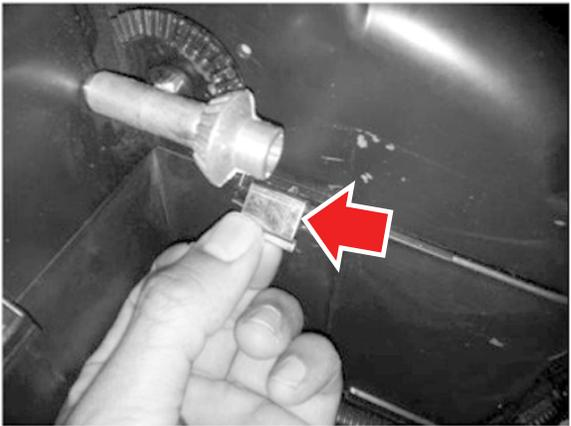

Figure 11-2
- 2. Remove retaining clips securing the head of the HVAC unit along its perimeter and set aside for reinstallation (see Figure 11-2).